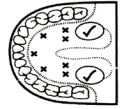

Figure 2
- Oral Use:** Place thermometer under tongue as indicated by "√" position shown in Figure 2. Close your mouth and breathe evenly through the nose to prevent the measurement from being influenced by inhaled/exhaled air. Normal temperature between 35.7°C and 37.3°C (96.3°F and 99.1°F).